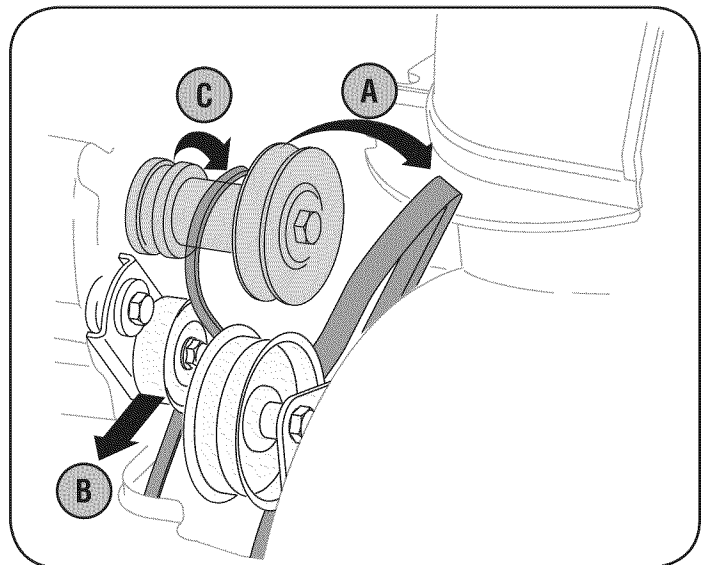

Figure 29
- Remove the belt as follows. Refer to Figure 29.